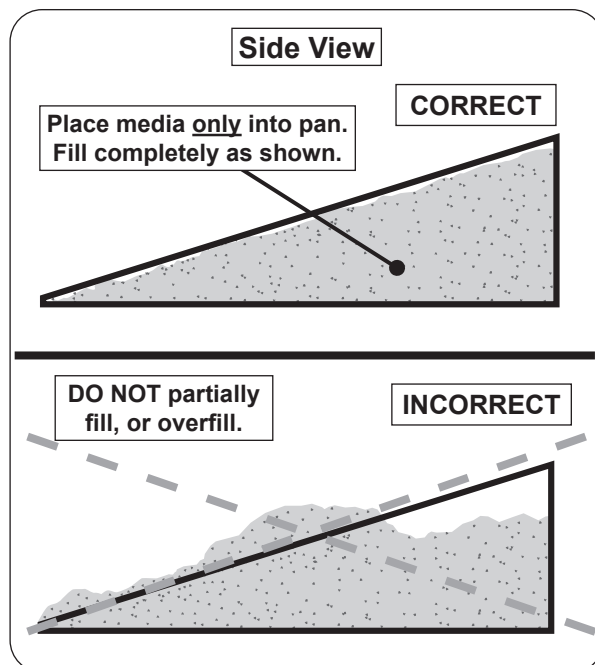

Fig. 21-2 Correct/Incorrect media placement
2. Slope the sand/vermiculite at the same angle as the burner pan. This is important to ensure quiet lighting and even flame distribution. See Fig. 21-2.